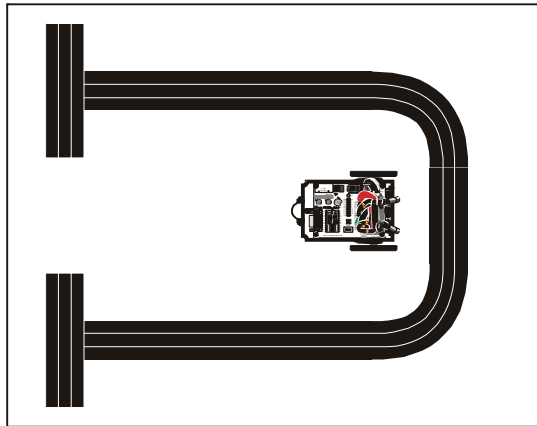
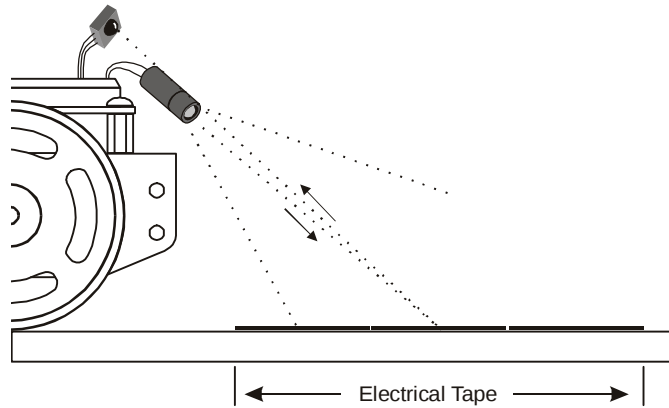

Figure 8-10
Figure 8-11
- ✓ Place your Boe-Bot so that both IR object detectors are focused directly at the center of your electrical tape stripe (see Figure 8-10 and Figure 8-11).
If you are unable to get a high zone value when the IR detectors are focused on the electrical tape, take a separate piece of paper, and make a stripe that's four strips wide instead of three. If the zone numbers are still low, make sure that you are using 2 kΩ resistors (red-black-red) in series with your IR LEDs. You can also try a 4.7 kΩ resistor to make the Boe-Bot more nearsighted. If none of this works, try a different brand of black vinyl electrical tape. Adjusting the IR LED/detector so that it is focused closer to or further from the front of the Boe-Bot (see Figure 8-11) may also help.